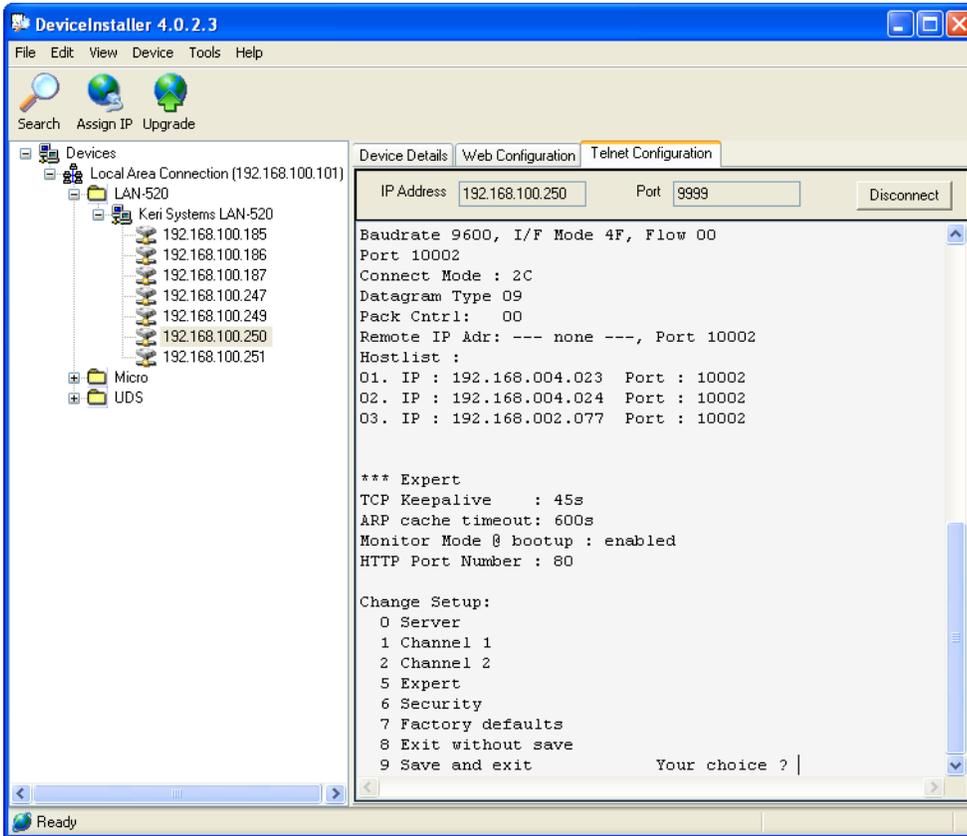

Figure 32: Current LAN-520 Configuration
2. Once Telnet connects with the LAN-520 all current configuration information is displayed and the cursor is placed at the “Your choice” field (see Figure 32 on page 24).